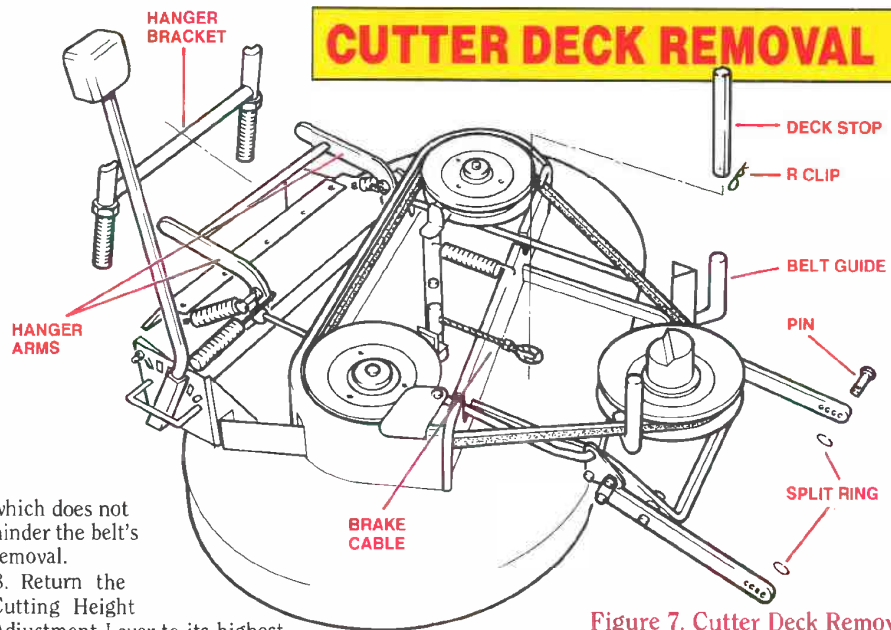

Figure 7. Cutter Deck Removal.
4. Remove the "R" clip from the Deck Stop, which is situated above the centre of the Cutter Deck. Allow the brake cable to drop clear of the Deck Stop and then refit the "R" clip. (See fig. 7).
2. Remove the Cutter Deck from the tractor (see figure 7).
2. Remove the Cutter Deck (see figure 7).
2. Remove the Cutter Deck from the Tractor (see figure 7).